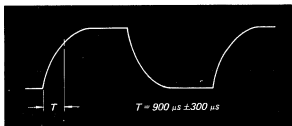

Fig. 7-6.
2. Confirm that the gate pulse interval is 900  $\mu\text{sec} \pm 300 \mu\text{sec}$ . See Fig. 7-6.